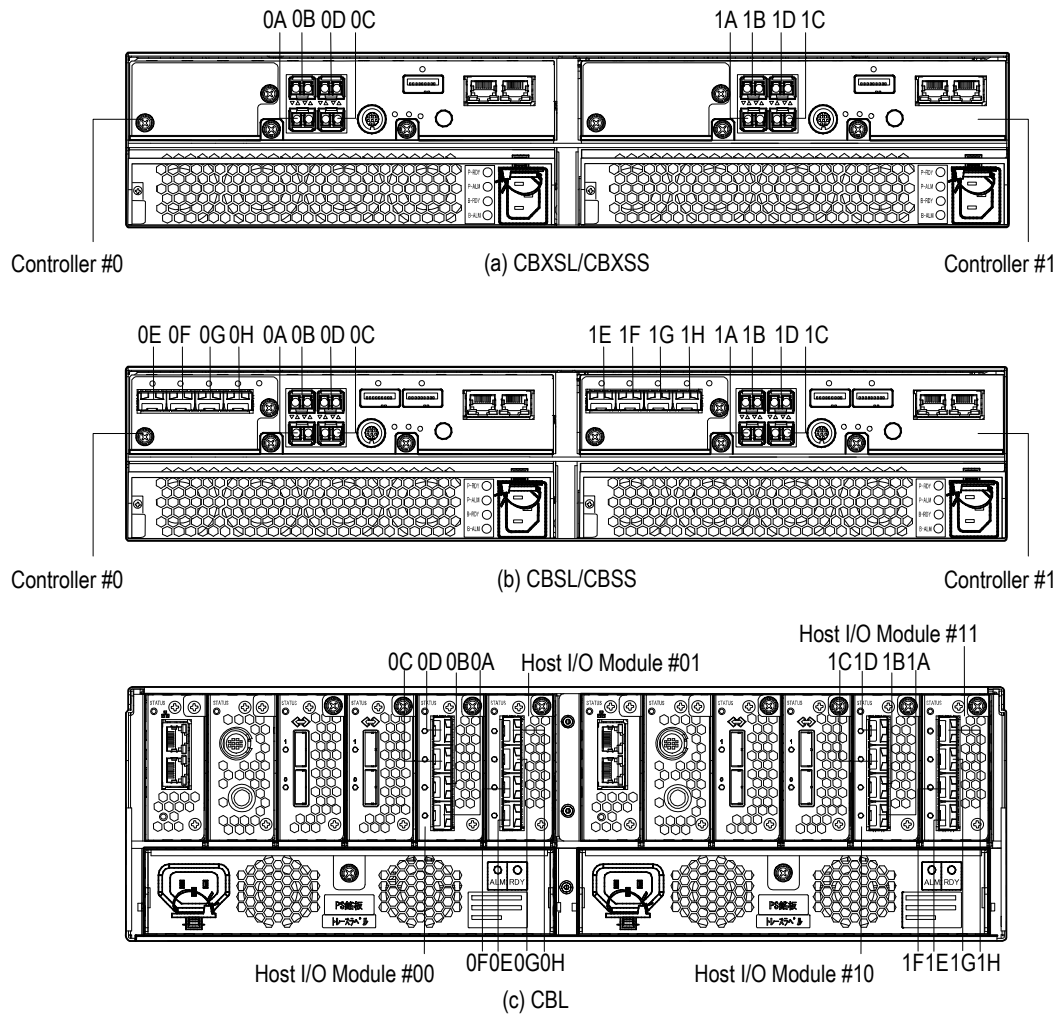

Figure 2.4.49 Connection Port for Fibre Channel Interface Cables
(1) Connecting the Fibre Channel Interface cable
- (a) Connect the Fibre Channel Interface cables after making sure of the ports to be connected on the rear face of the array. (Refer to Figure 2.4.49.)
- The location of Fibre Channel connectors is different depending on Controller. Check the location in Figure 2.4.49 before connecting a cable.